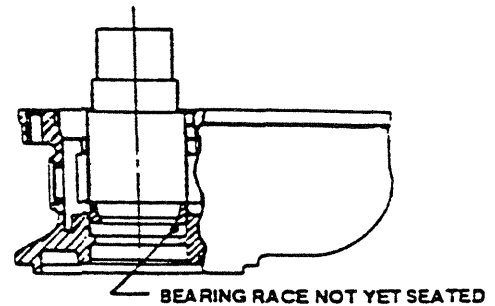

Figure 904. Installing Bearing Outer Race
- E. Using large end of the 11-6924-1 Pressing Tool and an arbor press, seat outer races of bearings (64 and 70) in magneto and distributor housings. See Figure 904.
- F. To determine the proper bearing preload, temporarily assemble rotor (54) with gear, bearings and shim washers in place into housings (48 and 50), using gasket (49) when applicable. Install three screws with lockwashers (47) adjacent to rotor to secure housings together. To avoid possibility of excessive bearing preload, test magnet for free turning as screws are tightened. Rotor must turn freely. If bearings become tight as screws are tightened, disassemble and remove shim washers on pinion gear end of rotor. Reassemble magneto and tighten screws in two steps with 4 to 8 in.-lbs., then with 30 to 35 in.-lbs. of torque. Using a force of 30 lbs. in each direction, determine total end play. The amount of shims required to obtain the proper preload is sufficient to obtain the total end play of .0005 to .0015 in. loose. Add or remove shims on the gear end of the rotor to obtain the proper preload.